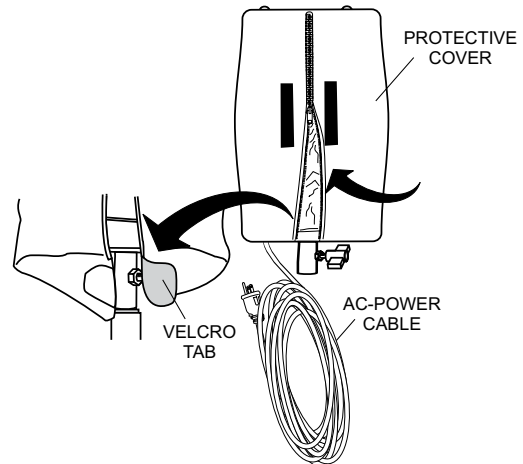

Figure 18. Zipping the Protective Cover
4. Unhook lamp AC power cable from washer eyelet (Figure 11). Fully zip protective cover and fold velcro tab in place (Figure 18).